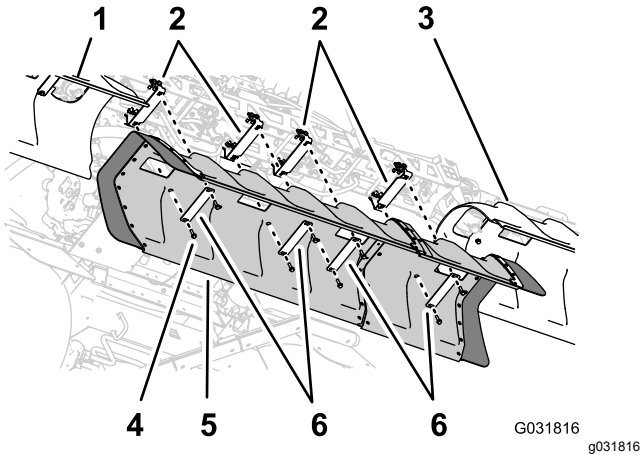

Figure 152
1. Align the holes in the center section cover with the holes in the support brackets for the center-section cover (Figure 152).
2. Align the holes in 2 of the cover straps that you removed in step 1 of 6 Removing the Center-Section Cover \(11-nozzle\) of the Optional Covered-Boom Kit \(page 21\) with the hose in the cover and 2 of the support brackets (Figure 152).
4. Align the holes in the 2 cover straps (Toro Part No. 120-0629) with the 4 remaining holes in the cover and 4 remaining holes in the support brackets (Figure 152).
5. Assemble the cover straps and cover to the support brackets (Figure 152) with the 4 flange-head bolts (5/16 x 1-1/4 inches—Toro Part No. 323-36).